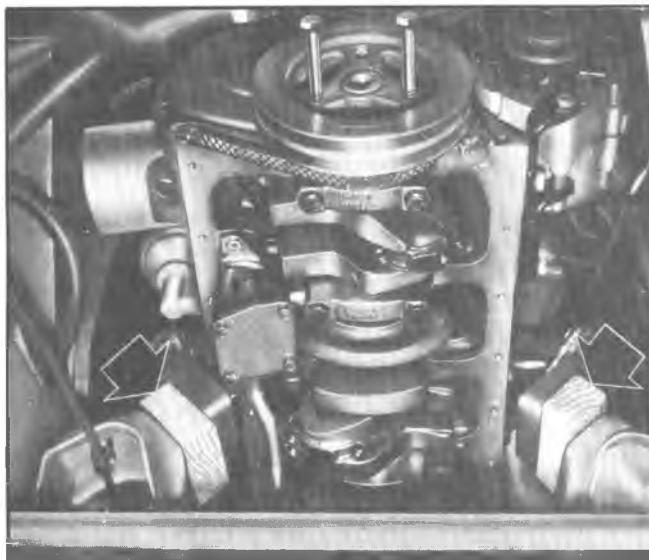

Fig. 8L—Engine Blocked for Oil Pan Removal
3. On G Series vehicles, remove bolts securing engine mounts to crossmember brackets - then, using a suitable jack with a flat piece of wood to protect oil pan, raise engine sufficiently to insert 2" x 4" wood block between engine mounts and crossmember brackets (fig. 8L).